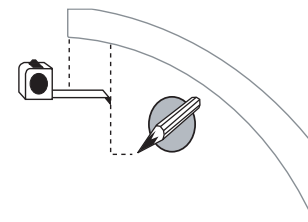

FIG. 5.0
- Measure 3" back from front of Angle Bracket mark location on side of Angle Bracket (Fig. 5.0)